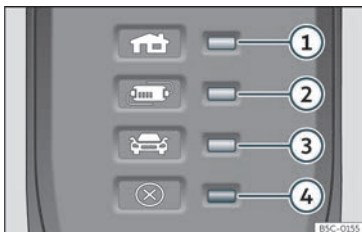

Fig. 208 On the charging cable for power sockets: Indicator lamps on the protection device.
»» Fig. 208:
The electronic protection device»» Fig. 208 ensures that the charging connector does not receive current until it is plugged in to the vehicle's charging connector.
One or more indicator lamps»» Fig. 208 ①, ② or ③ light up green.
Display»» Fig. 208	Meaning
If the red warning light ④ flashes or turns on without one of the indicator lamps >>> Fig. 208 ①, ② or ③ also turning on continuously on the status indicator, there is a fault.
Display >>> Fig. 208	Meaning